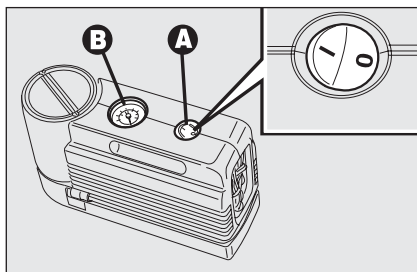
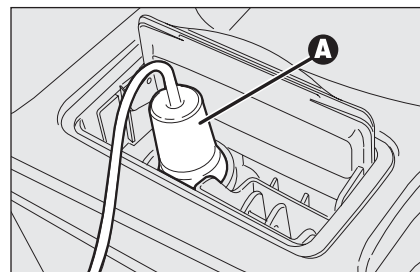

fig. 16
fig. 17
- ❑ make sure the compressor switch **A-fig. 16** is set to **0** (off), start the engine and fit plug **A-fig. 17** into the outlet/cigar lighter on the front console and then turn on the compressor by setting switch **A-fig. 16** to **1** (on);
- ❑ inflate the tyre to the pressure specified in paragraph "Wheels" in section "Technical Specifications". Check tyre pressure on gauge **B-fig. 16** with compressor off to obtain precise reading;